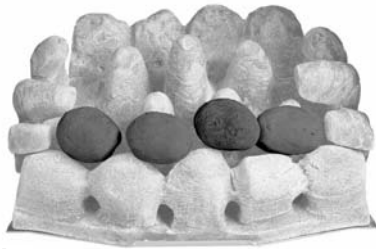

Fig. 24
5. Pick out the smallest two pebbles and lay to one side, lay the first row of four loose pebbles on top of the front coal. Ensure the back of the pebbles are resting on the fuel bed and there are even gaps all round (Fig. 24).